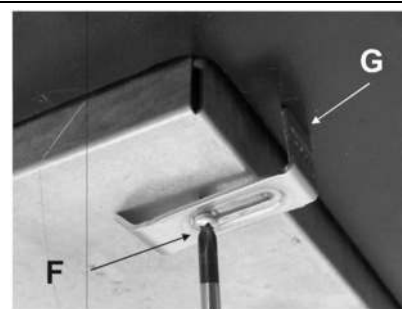

FIG. 10
- Install the cooktop in the opening made in the furniture and fix it using screws F, by means of fixing hooks G (see Fig. 10).